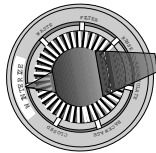

Figure 11: Valve setting for winter storage. Stop pump before changing valve position.
1. Open all system valves. Set multiport valve at 'WINTERIZE' to allow air passage to all ports (Figure 11).